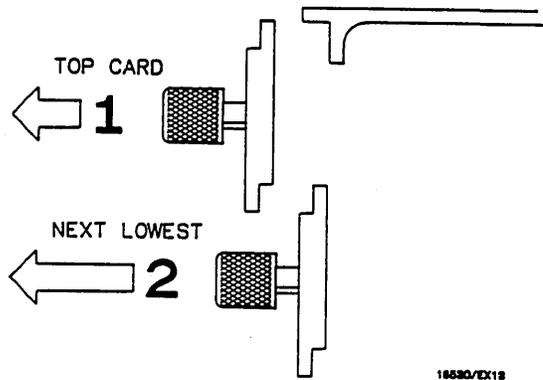

Figure 2-1. Endplate Overlap
- c. Starting **from the top**, begin pulling card(s) and filler panel(s) out half way. See figure 2-1.